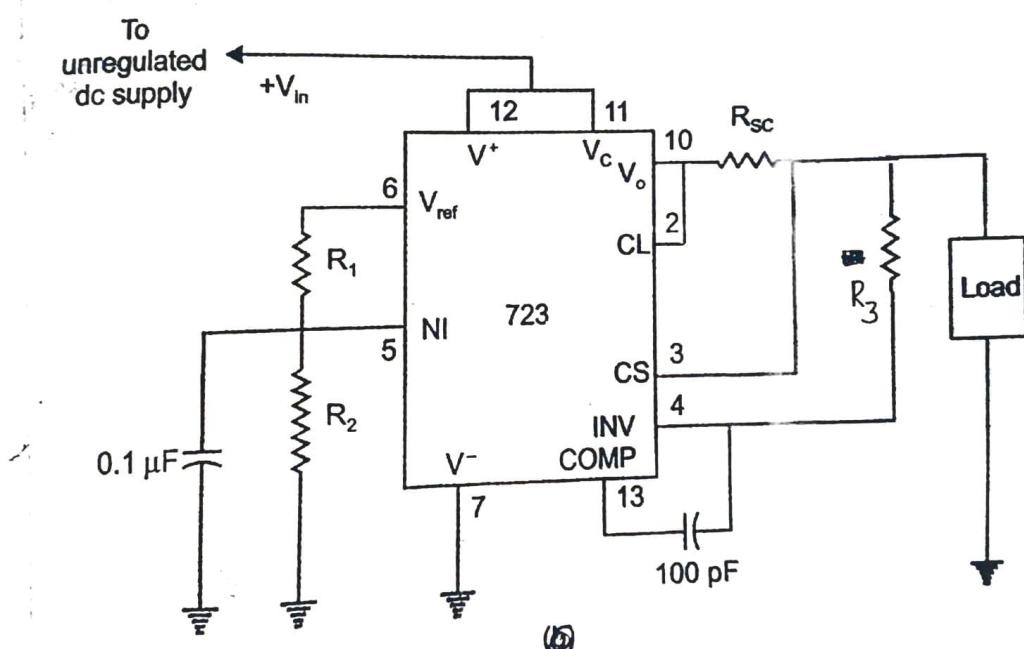

Fig 15. Circuit of low voltage regulator with current limit protection.
**Ex2** Ref the circuit of Fig 15.